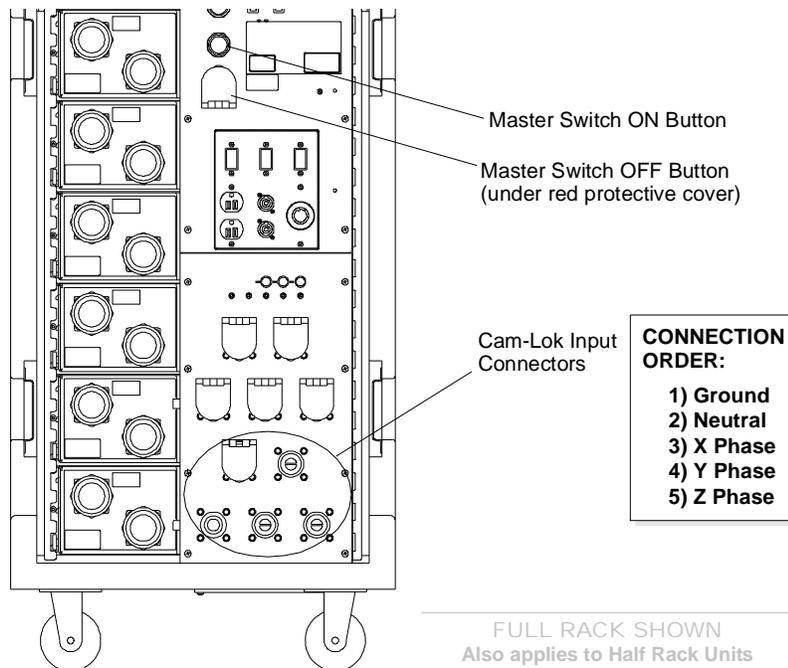

Figure 2-5: Disengaging Master Switch and Connecting Cam-Loks
Step 10. At Series 400 Rack, ensure Master Switch is OFF. To disengage Master Switch, pull down red protective cover and press red button (**Figure 2-5**).
- Step 1. At Series 400 Rack, turn Master Switch OFF. To disengage Master Switch, pull down red protective cover and press red button (**Figure 2-5**).